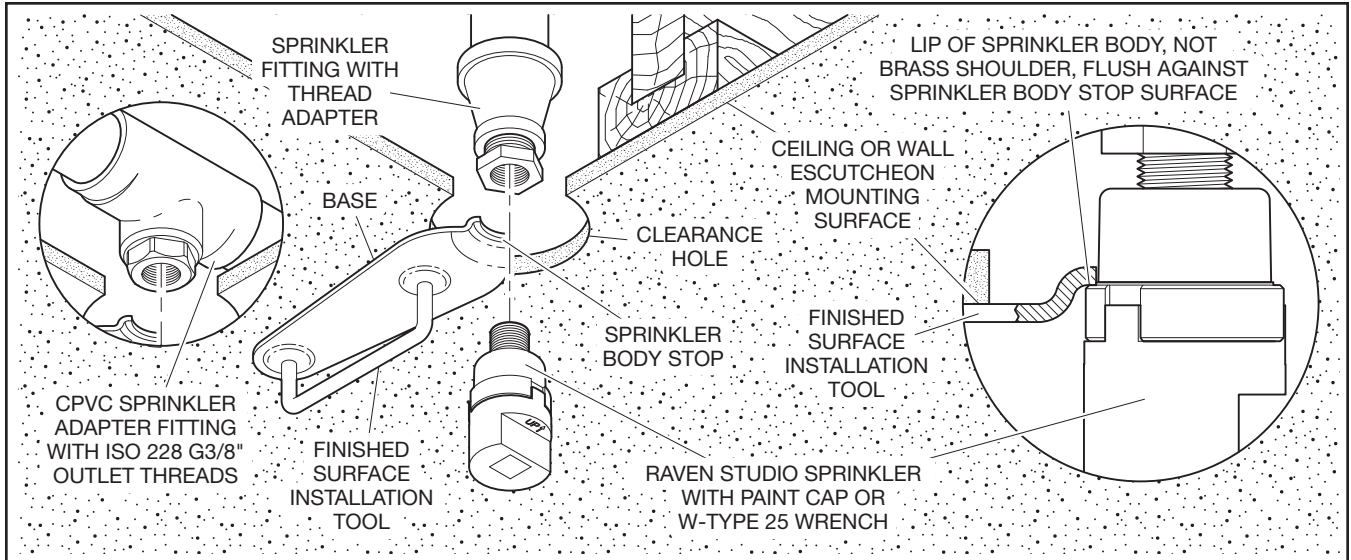

FIGURE 11
1. USE LIP OF PAINTED SPRINKLER BODY, NOT BRASS SHOULDER, AS INSTALLATION SURFACE, REF. FIGURES 11 OR 12 AND INSTALLATION PROCEDURE STEPS 8 OR 9
Step 8. Grasp paint cap or wrench and rotate sprinkler clockwise until painted sprinkler body lip (not brass shoulder) is flush with tool sprinkler body stop (Ref. Figure 11). Remove installation tool.